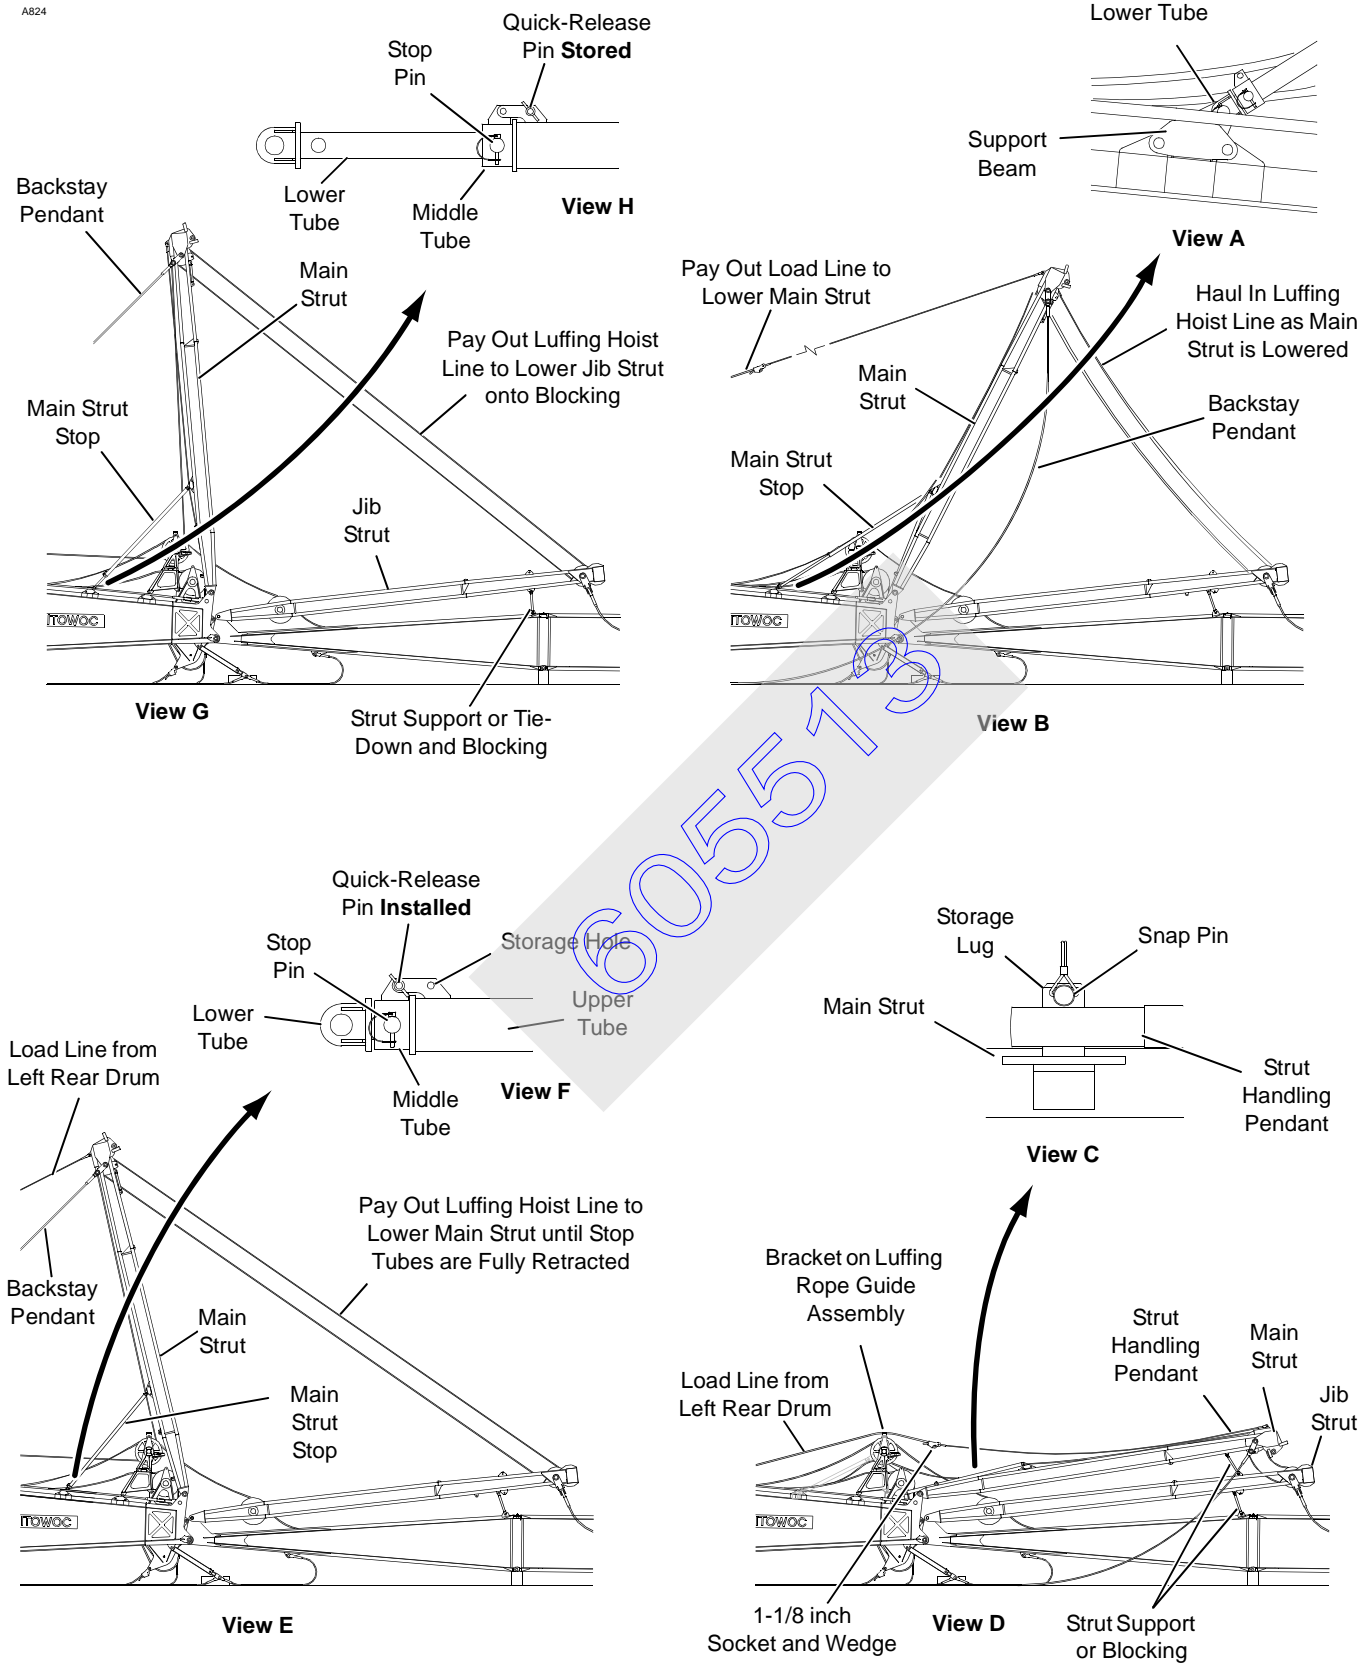

FIGURE 4-19
Jib strut can now be lowered if desired (see Figure 4-19).
- i. Rotate jib stop struts forward as shown in Figure 4-19 (use assist crane or lever operated hand hoist).
2. On current production jibs, slowly lower jib strut (luff down) until it is approximately 2 ft (0,6 m) from jib. Unpin strut supports from stored position on jib strut and pin support to jib (Figure 4-19, View G).
5. Remove quick-release pins from storage holes in main strut stop tubes (Figure 4-19, View H) and install both quick-release pins (Figure 4-19, View F). It may be necessary to raise or lower main strut slightly (luff up or down) to align holes.
6. Remove both stop pins (Figure 4-19, View H). It may be necessary to raise or lower main strut slightly (luff up or down) to align holes.
7. Pay out luffing hoist line to lower main strut until hole in both middle tubes lines up with bottom hole in both lower tubes (Figure 4-19, View E).
8. Install stop pins to connect middle tubes to lower tubes (Figure 4-19, View F).
10. Unpin strut handling pendant from storage lug on left side of main strut (Figure 4-19, View C). Store snap pin in lug.
13. Guide load line over bracket on luffing rope guide assembly and pin socket on load line to strut handling pendant (Figure 4-19, View D).
15. Remove and store both quick-release pins (Figure 4-19, View F). **Do not remove stop pins.**
16. Haul in luffing hoist line to pull main strut forward (Figure 4-19, View B). Tension load line as main strut nears vertical so strut moves forward smoothly past vertical.
17. Continue to pay out load line and haul in luffing hoist line until main strut is approximately 25° forward of vertical (Figure 4-19, View B).
- a. Unpin lower tube from support beam (Figure 4-19, View A).
- c. Remove quick-release pin from storage hole and install pin to hold tubes in retracted position (Figure 4-19, View F).
19. On current production jibs, slowly pay out load line and haul in luffing hoist line until main strut is approximately 2 ft (0,6 m) from jib strut. Unpin strut supports from stored position on main strut and pin supports to jib strut (Figure 4-19, View D).
20. Disconnect strut handling pendant from socket and pin pendant to storage lug on left side of main strut with quick-release pin (Figure 4-19, View C).